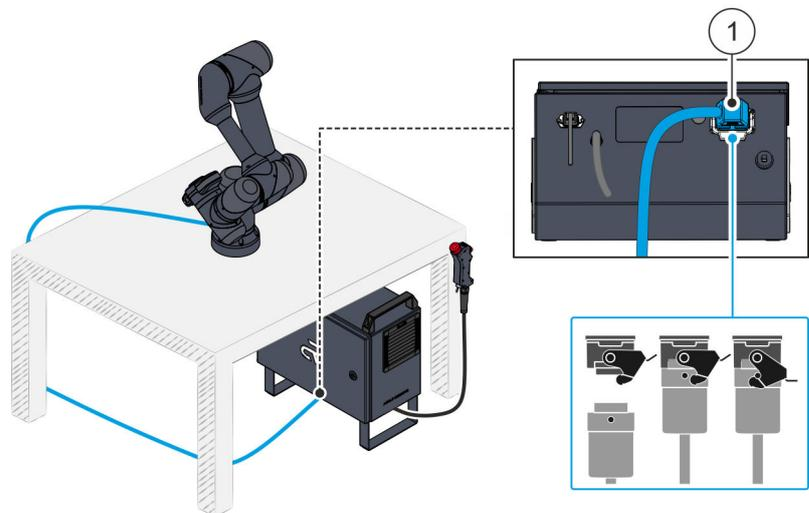

Fig. 54 Connecting the robot and robot controller
24. Plug the robot's connecting cable into the associated connection socket on the robot controller **Fig. 54** / ①.
When doing so, ensure that the cable plug is locked to the connection socket with the help of the bracket **Fig. 54**.